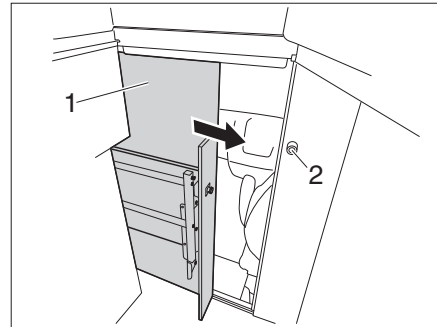

Fig. 55 Driver's cabin lock
▷ Only drive with the doors (Fig. 55,1) secured.
- Slide the door (Fig. 55,1) closed until it latches into the lock.
- Turn the handle (Fig. 55,2) anticlockwise until the door is locked.
- Turn the handle (Fig. 55,2) clockwise until the door is unlocked.
- Slide open the door (Fig. 55,1) and secure it.